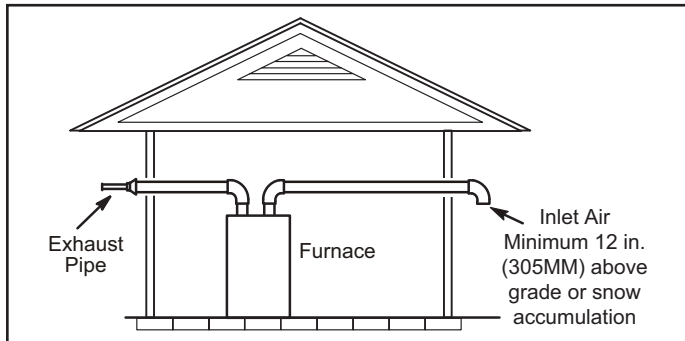
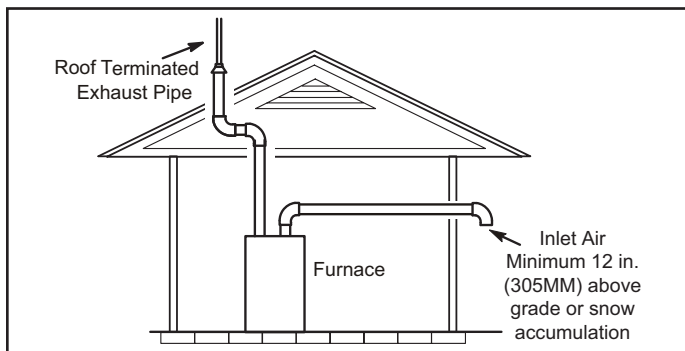

Figure 25. Exiting Exhaust and Intake Vent (no common pressure zone)
Figure 26. Exiting Exhaust and Intake Vent (no common pressure zone)
Intake and exhaust pipes may be routed either horizontally through an outside wall or vertically through the roof. In attic or closet installations, vertical termination through the roof is preferred. Figure 25 through Figure 39 show typical terminations.
1. Intake and exhaust terminations are not required to be in the same pressure zone. You may exit the intake on one side of the structure and the exhaust on another side (Figure 25). You may exit the exhaust out the roof and the intake out the side of the structure (Figure 26).